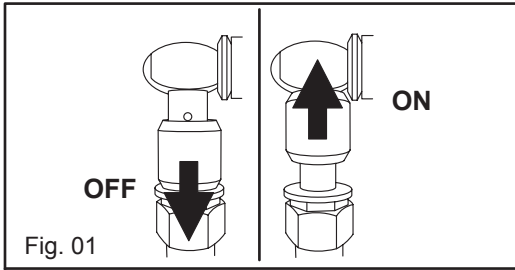

Fig. 01
1. To apply air pressure move the valve (Fig. 01) to "ON" position.